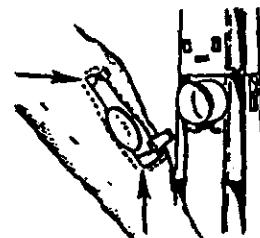

Fig. 2
- Extra bag and belt storage on the unit **Fig. 2**
2. Release outer bag retention clips (Legacy - 2 upper, 2 lower; Legacy II - 2 upper, the 2 lower tabs are there but are not fastened) ... grasp bag attachment collar support area and pull out. (Fig. 2)